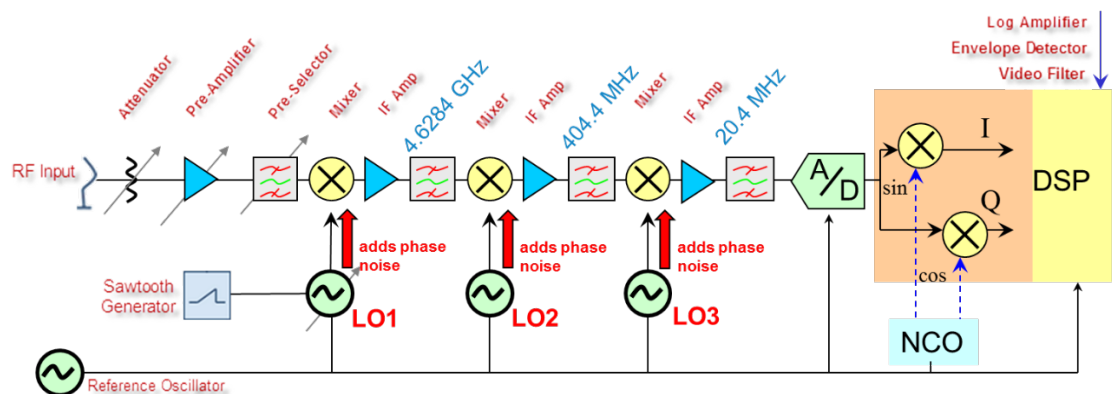

Fig. 2-2: Example direct spectrum analyzer block diagram.
Figure 2-2 shows a generalized block diagram of a modern spectrum analyzer. The incoming signal gets up-converted and down-converted multiple times before it gets to the baseband frequency, where the final signal is analyzed with the DSP hardware. The local oscillator (LO) at each of these stages can contribute phase noise to the overall measurement. For this reason, it is important to make sure that the spectrum analyzer phase noise is lower than the device-under-test (DUT).